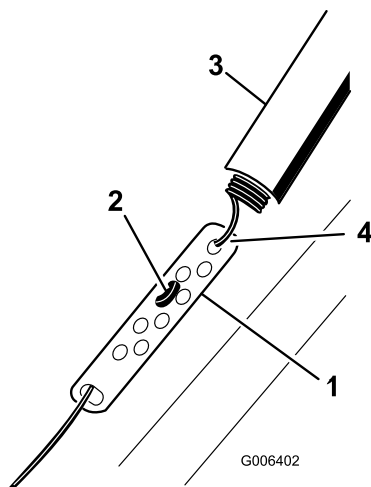

Figure 24
1. Slide up the spring cover and unhook the spring from the adjuster link (Figure 24).
2. Move the Z-fitting to a higher or lower hole on the adjuster link as needed to obtain the 2 mm to 3 mm (1/16-inch to 1/8-inch) gap between the control bar and the handle (Figure 24).